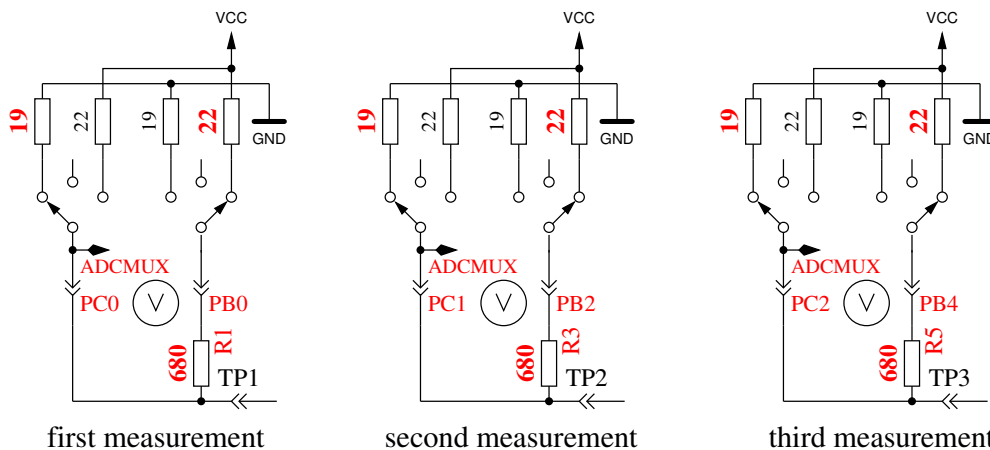

Figure 5.43: Measurement of internal resistance of Port C switched to GND
5. **This step tests the capability of GND (-) connected $470k\Omega$ resistors (H) to pull the test pins to GND.** Row 1 shows the text “RH-”. Row 2 should display zero for all three pins.
6. **This step tests the capability of VCC (+) connected $470k\Omega$ resistors (H) to pull the test pins to VCC (+).** Row 1 shows the text “RH+”. The results are shown als difference to VCC and should be near zero. Great differences from the best value for test 5 and 6 are errors such as isolation problem, flux material or damaged port.
7. **Measuring of internal resistance of pin output switched to the GND signal.** This test and the follwing tests will only be done, if the option AUTO_CAL is selected. The internal resistance of the port C outputs switched to GND (-) are measured with the current of to VCC (+) switched 680Ω resistors, see Figure 5.43. Only the three pins of the ADC port are measured, the resistor port B (PB0,PB2 and PB4) can not be measured without hardware modification. Is is assumed that the port resistance of the different ports are nearly identical. The resistor value will be shown in the next test.